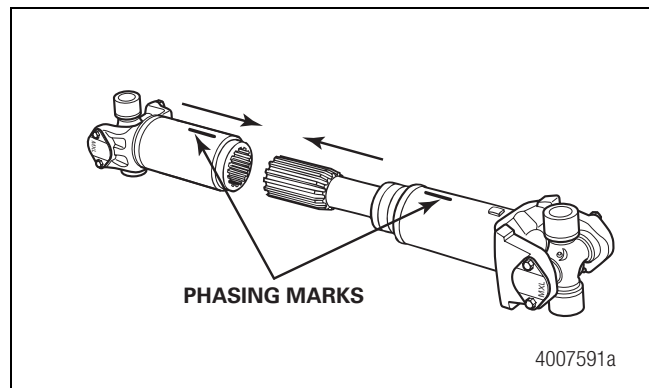

Figure 4.3
3. Align the slip yoke and spline shaft sections with the phasing marks you made on these sections during disassembly. Figure 4.3.
4. Install the spline shaft into the slip yoke until the splines fully engage. Figure 4.3.